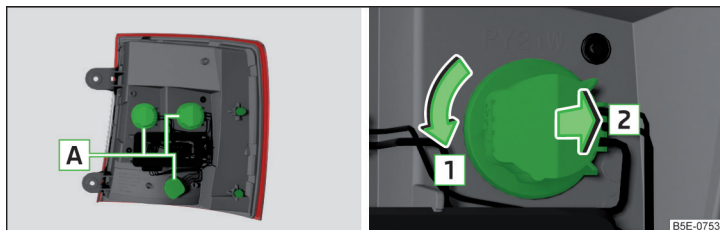

Fig. 356 Outer part of the lamp/Remove holder with bulb
- › Turn the holder with the bulb **A** in the direction of arrow **1** » Fig. 356.